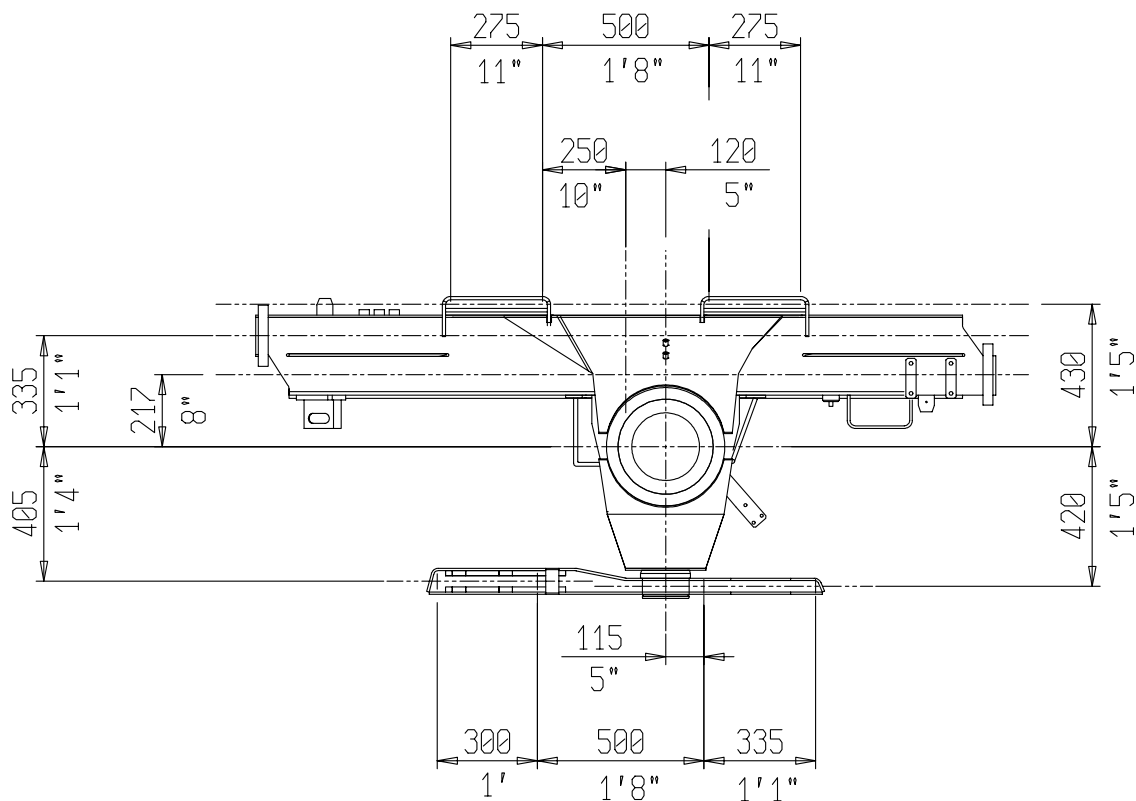

Fig.1-7
1.7.2 DIMENSIONI DI ANCORAGGIO (fig.1-7)
1.7.2 MOUNTING DIMENSIONS (fig. 1-7)